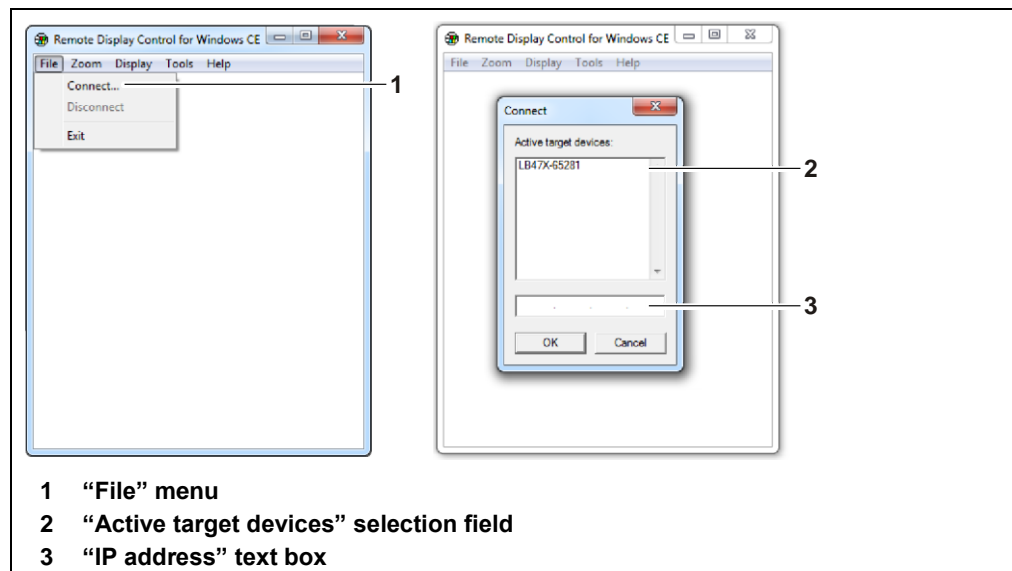

Fig. 39 Remote Control Software
2. Click on the **File | Connect...** (Fig. 39, item 1) to connect to the LB 147.
- ▶ A new "Connect" window opens (Fig. 39, item 2).
3. Click the detected device in the <Active target devices> selection field (Fig. 39, item 2). In the text box (Fig. 39, item 3), enter the IP address of the LB 147 (Fig. 38), if the device is not listed.